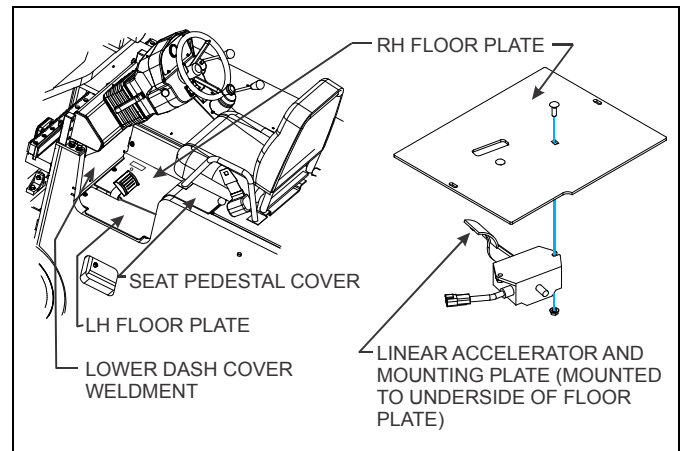

Figure 3-35: Floor Plate Removal and Linear Accelerator Module Assembly
2. Pull up the rubber floor mat. Be careful around the accelerator pedal to avoid tearing the mat (See Figure 3-35).
4. Remove the floor plate (See Figure 3-35).